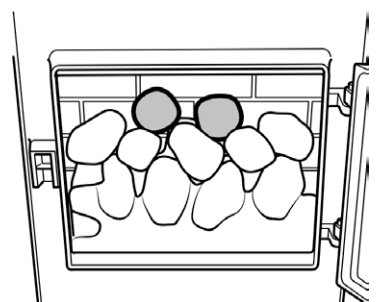

Figure 9
11. Locate the two ceramic coals identified with a number '3' as in figure 9.